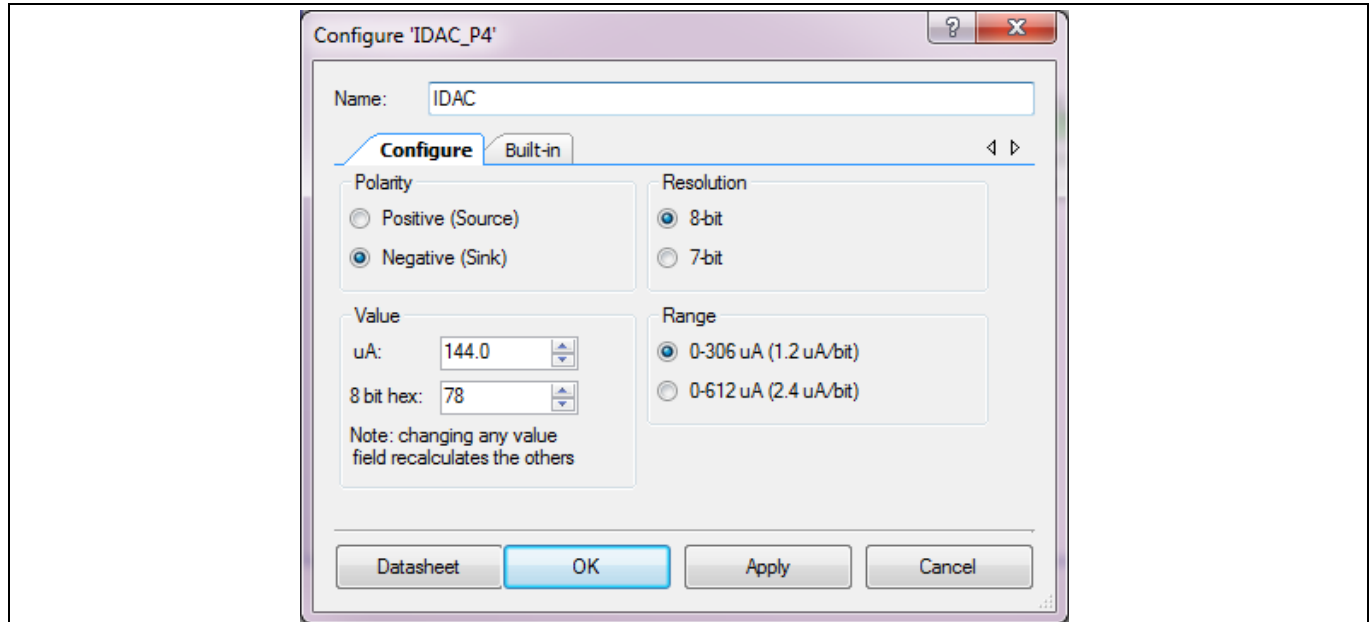
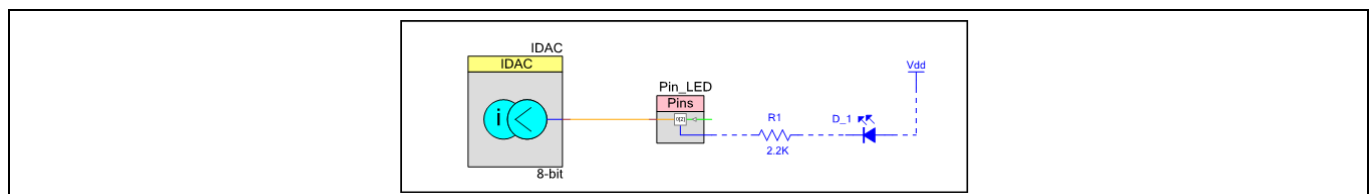

Figure 73 IDAC setting
Figure 74 PSoC™ Creator schematic of analog and digital switching scheme
- Set the IDAC's **Polarity** as **Negative (Sink)**, as shown in Figure 73. Connect the IDAC to the analog terminal, as shown in Figure 74.